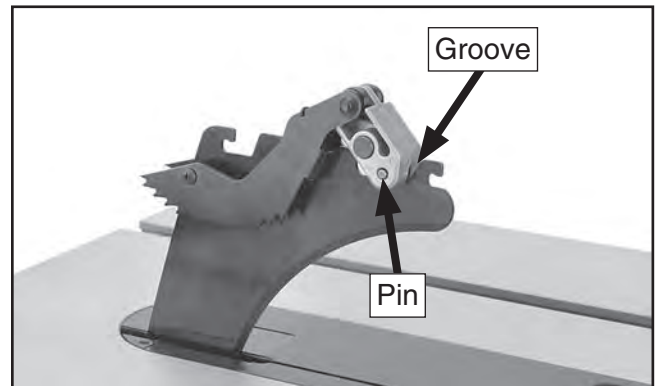

Figure 54. Re-installing pawls.
2. Slide the pin in the pawl block into the second groove from the front of the spreader, as shown in **Figure 54**.